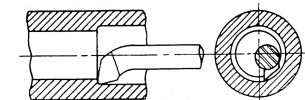

Fig. 9
**BORING.** For boring, and all inside work, a special tool is used. (See Figs. 9 and 20.) This tool should be set in the tool holder parallel to the lathe bed, the point just below center of the work and at a slight upward angle. Because of the tendency boring tools have to spring, light cuts should be taken, especially as the finished size is approached. Sometimes a straighter hole is bored if the tool is fed in both directions—in and out. It is always good policy when boring on a lathe to caliper the work often.